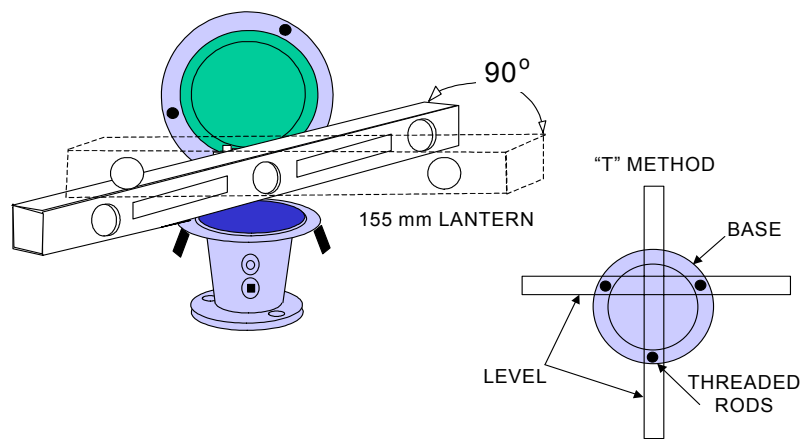
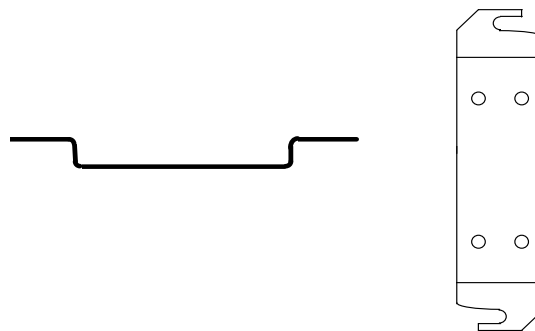

Figure 3-2
Figure 3-3
- (2) Position lantern over threaded rods. Place a flat washer, split washer and nut on each rod but do not tighten completely.
- (3) With lens open, place a level on the flange of the lantern base. Use the "T" method shown in Figure 3-2 so that adjustment of one leveling bolt won't affect the other adjustment.
- (4) Adjust the leveling nuts up or down until level.
- (5) Move the level ninety (90) degrees from your first position and readjust. See Figure 3-2.
- (6) Repeat steps until the lantern is level in both positions.
- (7) Tighten top nuts on leveling bolts and recheck levelness of lantern. DO NOT OVERTIGHTEN.
- (8) Obtain a tested CG-6P lampchanger and CG-181 flasher with the appropriate hardware (see Chapter 4).
- c. Attach the mounting bracket between the base of the CG-6P lampchanger and CG-181 flasher with four 10-32x1" screws supplied so that the dip in the bracket is down (see Figure 3-3). The wires from the WK-681 wiring kit must pass **under** the bracket. Attach the bracket to the screws in the base.